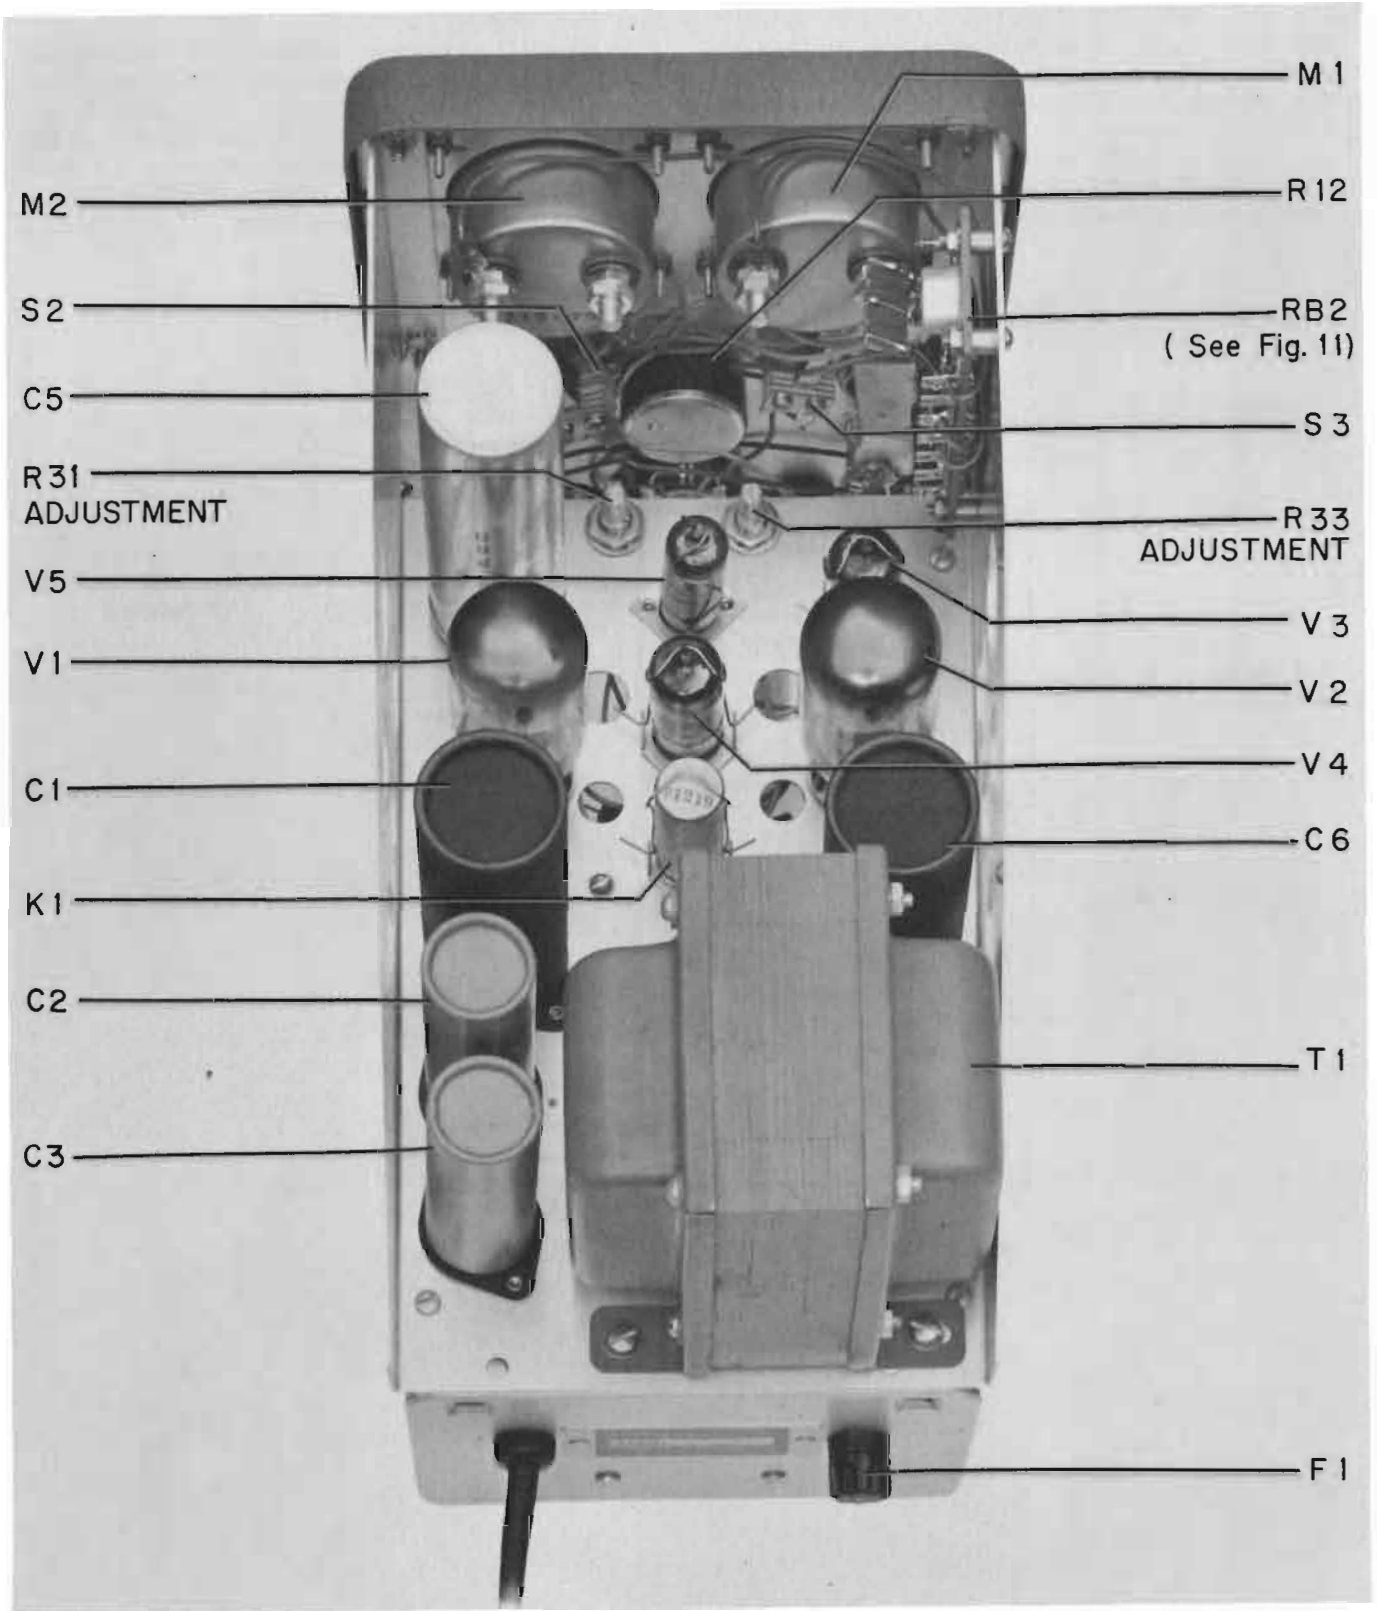

Figure 4-2. Model 711A Top View Cover Removed
- c. Low-End and High-End Adjustments - The adjustments for R31 and R33 are brought out to the upper side of the deck, and are identified in Figure 4-2.
Variable resistor R14, which is part of the shunt network across milliammeter M2, is mounted on resistor board RB2. Connections to R14 are indicated in Figure 4-4, and the location of RB2 on the chassis is shown in Figure 4-2.
<p>b. Defective tube in main regulator. (CONT'D.)</p> <p>c. Potential applied to tube pins not of proper values.</p> <p>d. Relay K1 held operated.</p>	<p>(2) Check V1, V2 as follows:</p> <p>A. Check that no load is connected to d-c output terminals.</p> <p>B. Remove one 6L6 and leave other in circuit. If trouble clears with one 6L6 out of circuit, replace that 6L6.</p> <p>c. Check d-c voltage on pins of all tube sockets: should be within <math>\pm 10\%</math> of those shown in Figure 4-8.</p> <p>d. Check that no load is connected to d-c output terminals. Remove K1. If voltmeter indicates the removal of K1 has corrected the trouble:</p> <p>(1) Check contacts on switch S2 (Figure 4-2)</p> <p>(2) Check for open resistor R2.</p> <p>(3) Check K1 by substituting relay known to be good.</p>